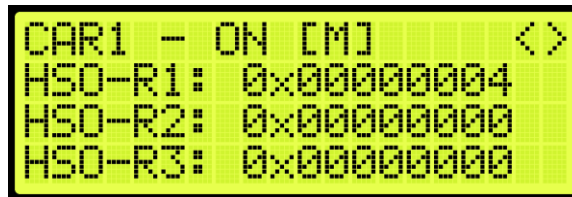

Figure 273: Rear Hall Security Map Status
10. From the Rear Hall Security Map Status (See Figure 273), press the right button.
11. From the Rear Hall Security Map Status (See Figure 273), press the right button.